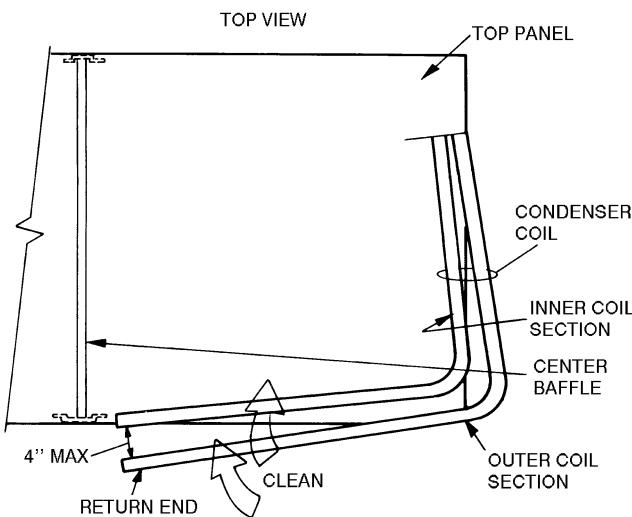

Fig. 39 — Separating Coil Sections
5. Remove fastener holding coil sections together at return end of condenser coil. Carefully separate the outer coil section 3 to 4 in. from the inner coil section. See Fig. 39.